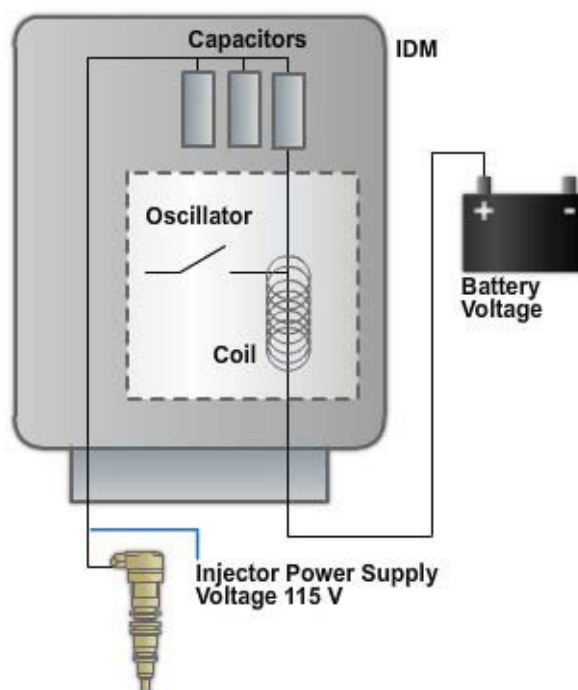

Figure 5-57 – IDM: power source.
Power the HEUIs. The IDM supplies a constant 115v DC supply to each HEUI. This 115v DC supply is created in the IDM by making and breaking a 12v source across a coil using the same principles employed by the ignition coil in a spark ignited (SI) engine. The resultant 115v induced is stored in capacitors until discharged to the HEUIs, as indicated in *Figure 5-57*.